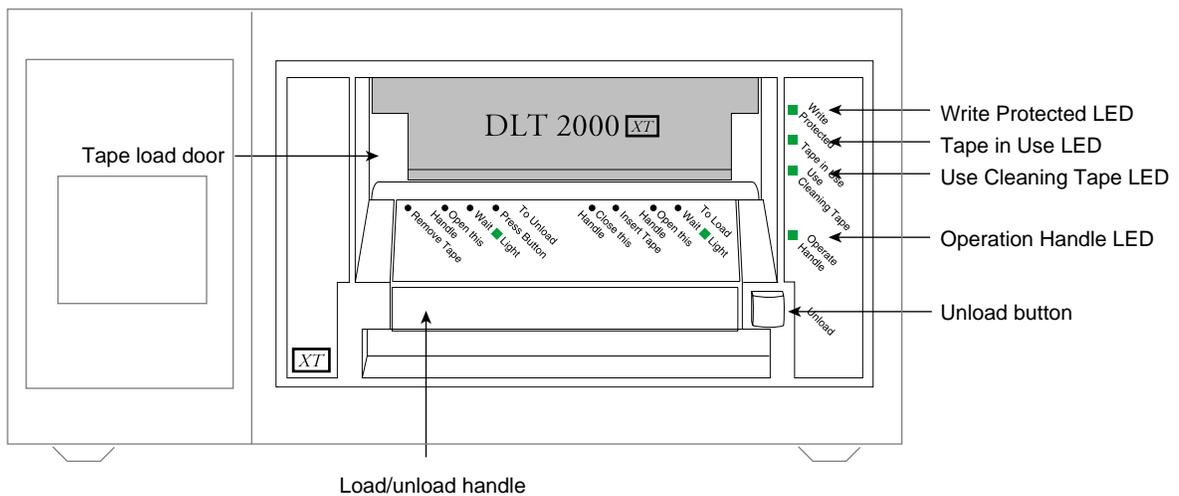

Figure 4-7 DLT2000XT Desktop Front Panel
4. After initialization, if no tape cartridge is loaded, the yellow Tape in Use LED turns off, the green Operate Handle LED turns on, the handle unlatches, and the beeper sounds. Figure 4-7 shows the LEDs on the front panel.